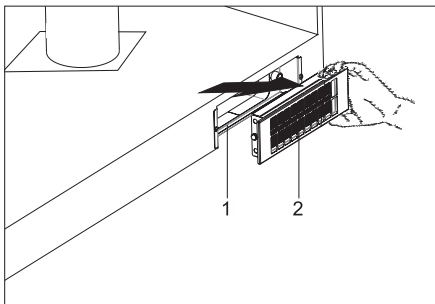

Fig. 26
1. Move the activated carbon filter (Fig. 26/2) towards the direction of the error (Fig. 26).